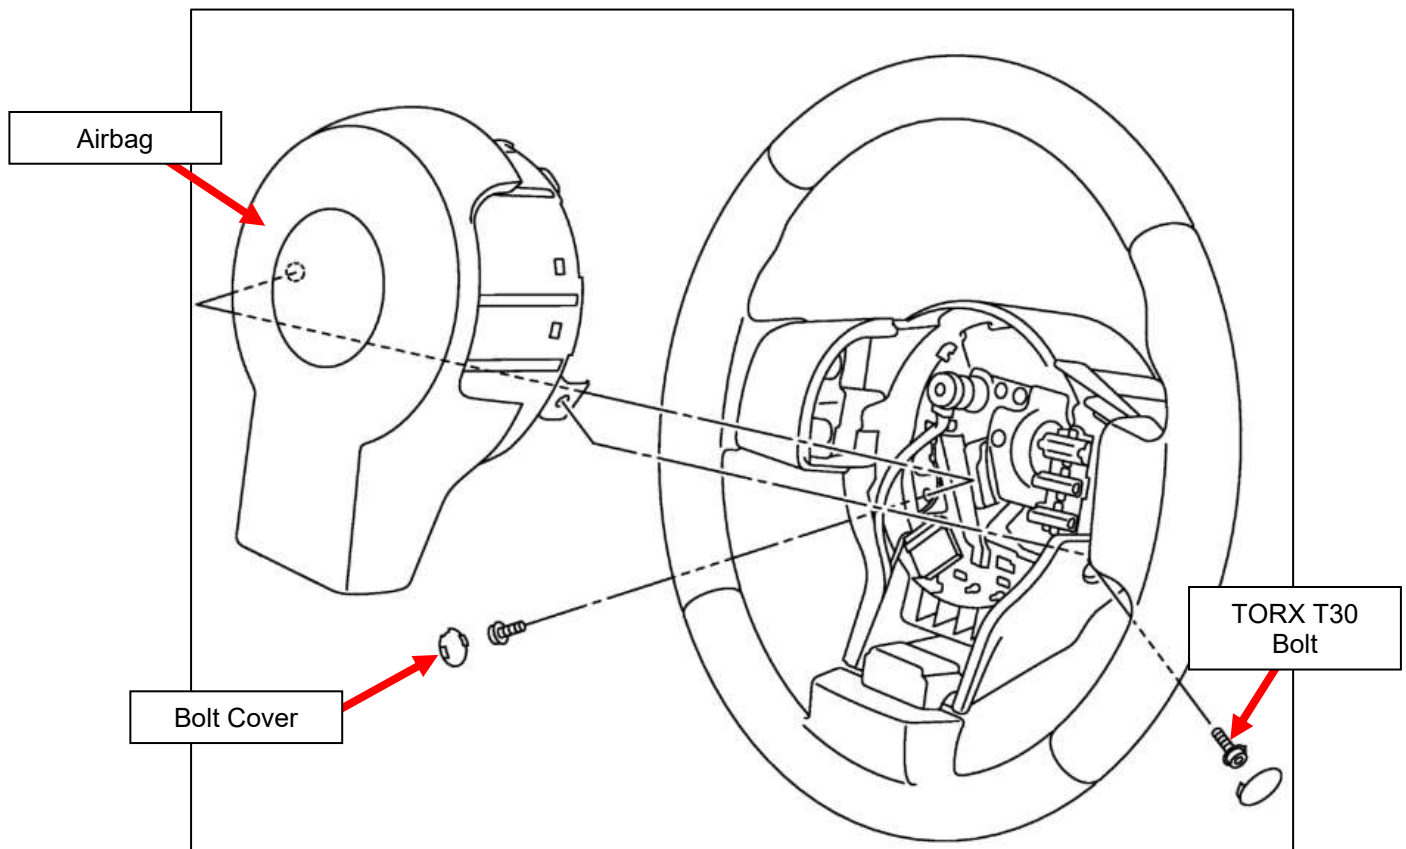

Figure 1
6. Remove the (2) two Covers hiding the (2) two bolts securing the Airbag to the Steering Wheel. *Figure 1.*
7. Remove the (2) two bolts securing the Airbag to the Steering Wheel. These need a TORX Tamper Resistant T30 Bit. It is recommended to replace these bolts after removal. *Figure 1.*